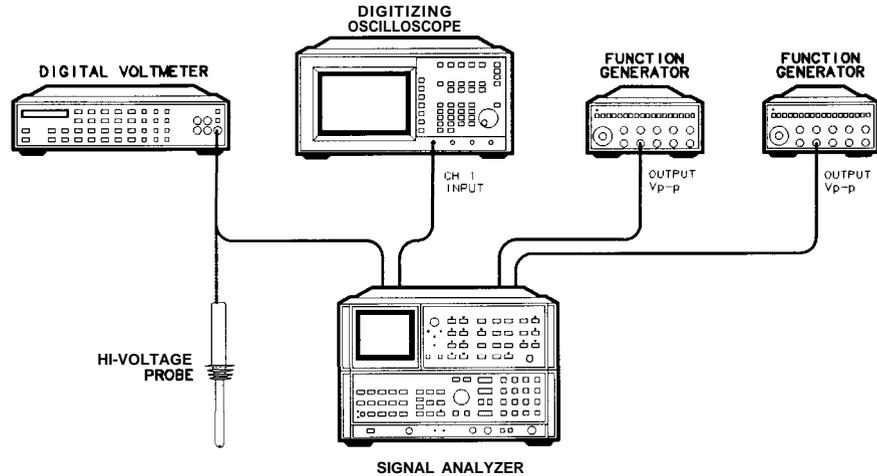

Figure 3-5. High Voltage Adjustment Setup
2. Remove the top cover from the IF-Display Section, and connect the equipment as shown in Figure 3-5 and described in the following steps.
35. Connect a separate function generator to each of the X and Y inputs of the Display Adjustment Board, as shown in Figure 3-5. Set the function generators as follows: